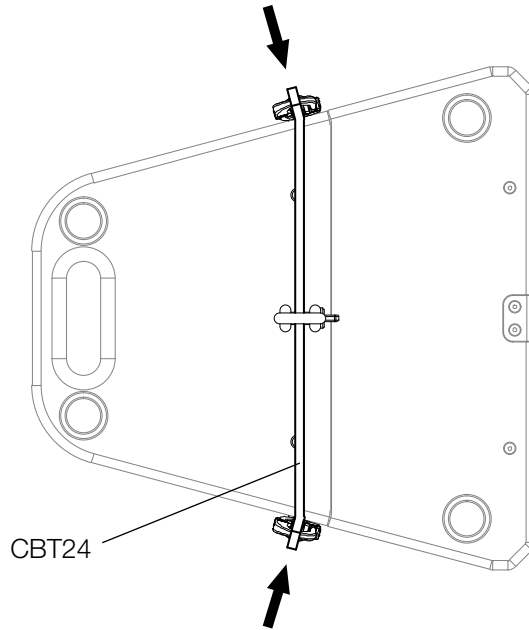

Figure 4.4 - Direction of mounting CBT24 to T24(N) loudspeaker
4.4 Direction of mounting CBT24 cradle bar for flying to T24(N) loudspeaker
Mount the CBT24 cradle bar for flying to the T24(N) loudspeaker as shown in figure 4.4.